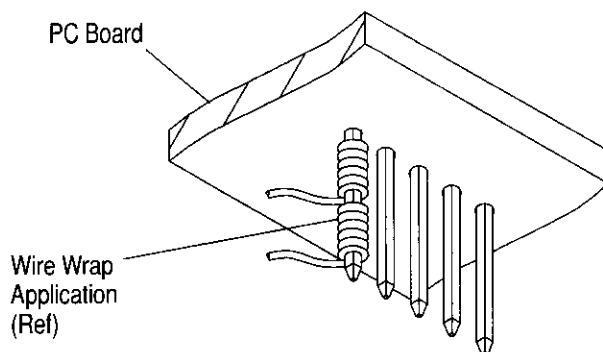
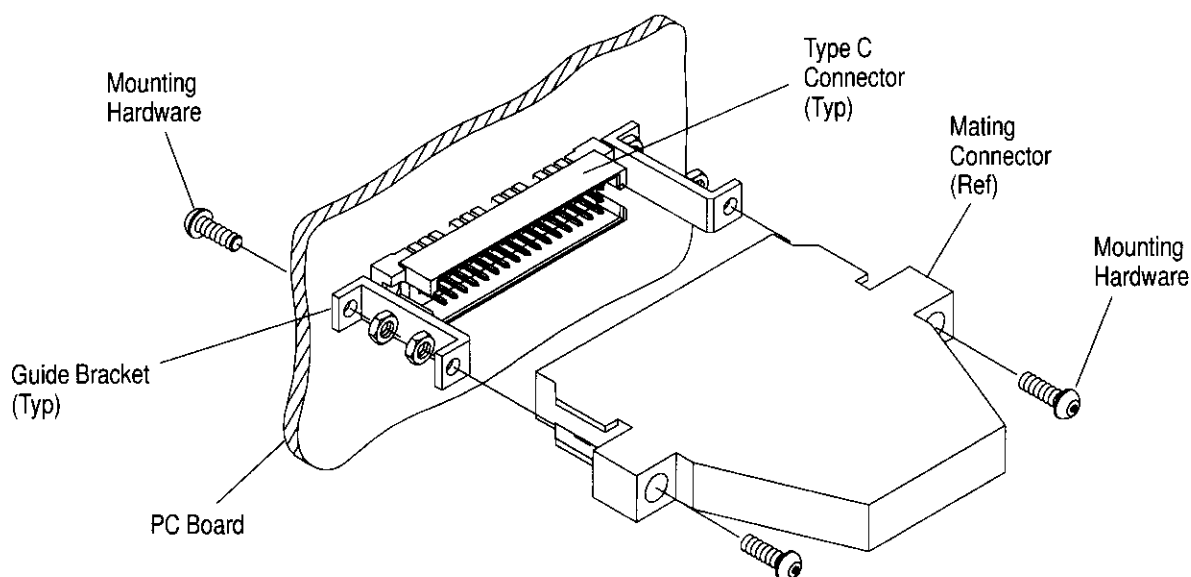

Figure 6
Figure 7
- Added Paragraph 3.5, Wrap-Type Contacts and Figure 6; and Paragraph 3.6, Ancillary Items and Figure 7
The wrap-type contacts available in these connectors will accommodate one or two wire wrap applications. It is recommended that 8 to 10 turns of solid wire be wrapped when using wire size 32 AWG, 7 to 9 turns when using wire size 30 or 28 AWG, and 6 to 7 turns when using wire size 26 AWG. The wire must be tightly wrapped to achieve reliable wrap-type terminations. See Figure 6.
Various types of guide brackets have been designed for application to Type C connectors. The guide bracket is mounted onto the pc board to help properly guide the mating connector onto the pin or receptacle connector. The bracket is also designed to attach to the connector with the mounting screws and nuts supplied with the guide brackets to ensure a stable application. See Figure 7.